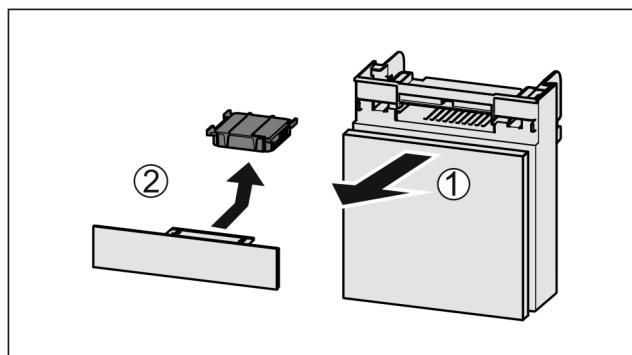

Fig. 70
- ▶ Pull out the compartment Fig. 70 (1).
- ▶ Remove the carbon filter Fig. 70 (2).